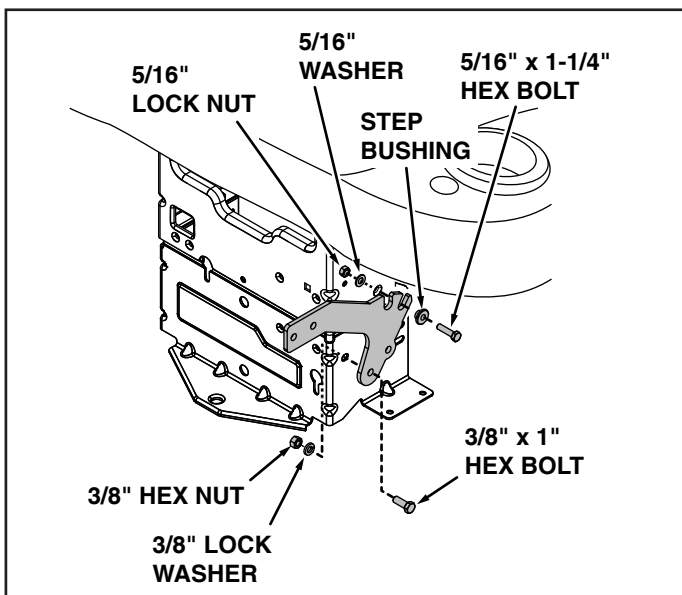

FIGURE 2
3. Assemble bottom of two weight bracket arms (2) to sides of drawbar using two 3/8-16 x 1" hex bolts (3), 3/8" lock washers (9) and 3/8-16 hex nuts (11). See figure 2.
4. Assemble top of two weight bracket arms (2) to sides of drawbar using front notches in arms. Use two 5/16-18 x 1-1/4" hex bolts (4), step bushings (13), 5/16" washers (4) and 5/16" lock nuts (12). See figure 2.